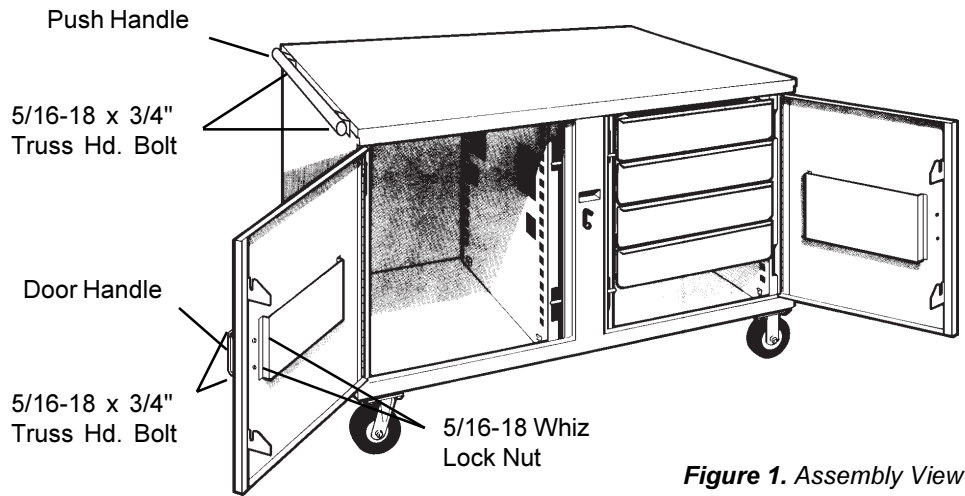

Figure 1. Assembly View
1. Remove the caster box and handle kit from the cabinet. Attach Handles to the doors (Figure 1). Attach the Push Handle to the end.